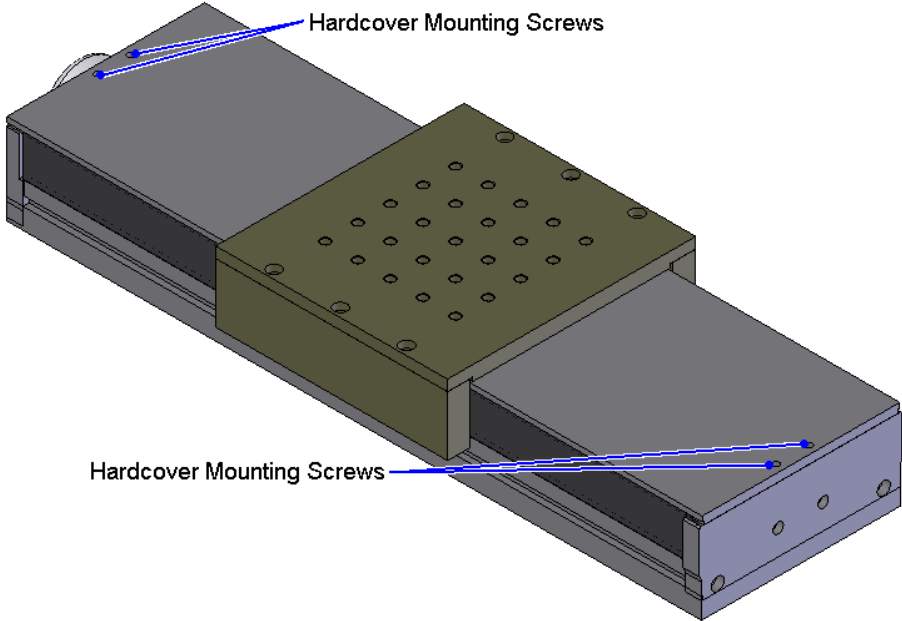

Figure 4-2: Hardcover Mounting Screw Locations
2. Remove the screws on the edges of the hard cover (Figure 4-2) and slide it out from the side opposite of the motor. This can be done without removing the table.